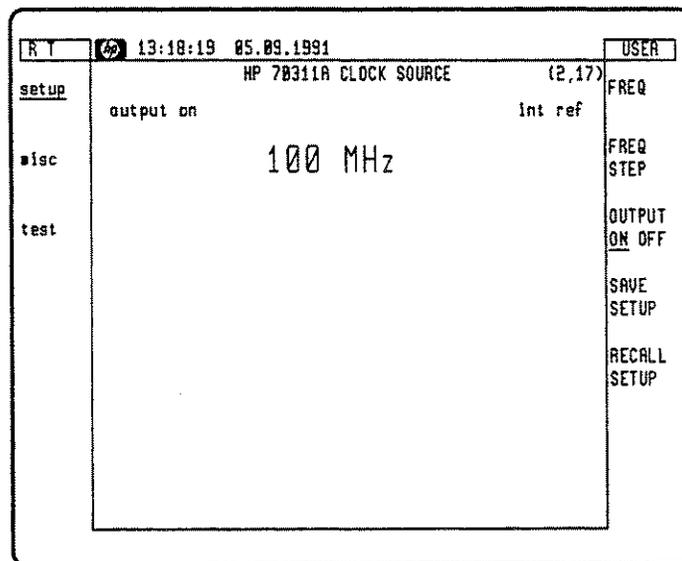

Figure 6-4. HP 70004 Graphics Display
3. Check that the display is similar to Figure 6-4, and that no errors are present.